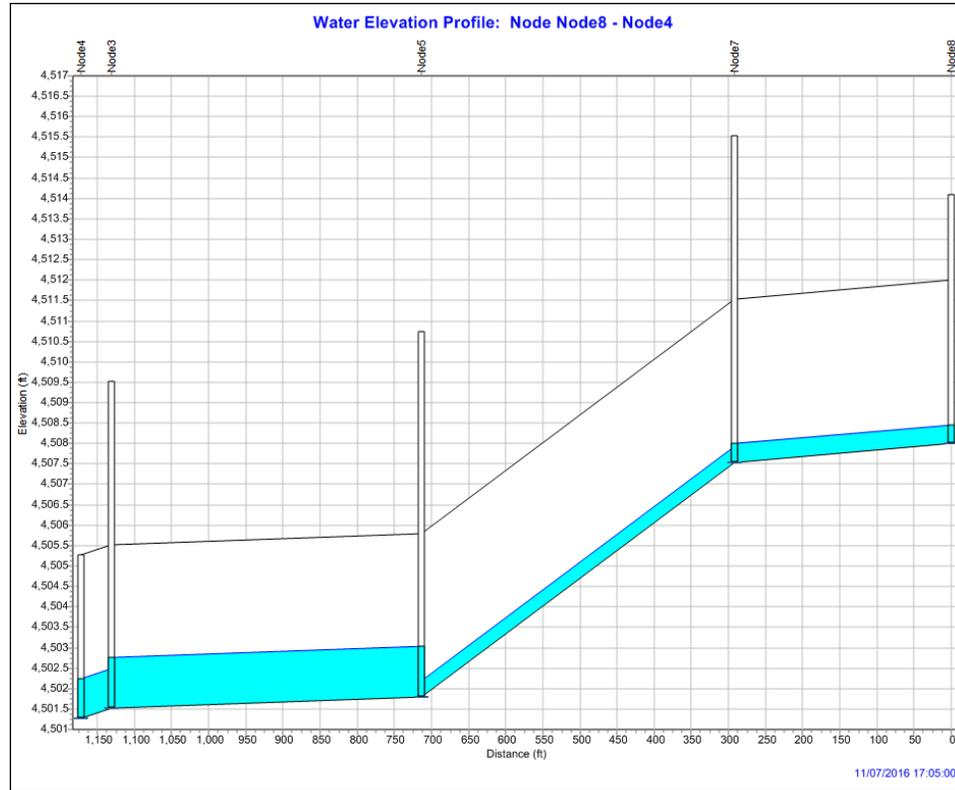

Figure 11 Elevation v. Distance plot from an upstream to a downstream node in the model
- Click **OK** to close the *Profile Plot Selection* dialog and bring up a “Water Elevation Profile” plot (Figure 11).